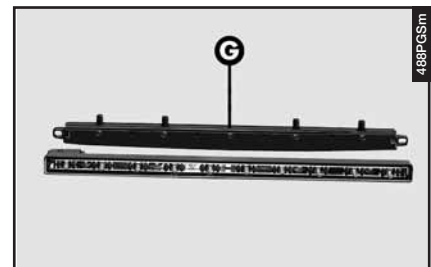

fig. 67
- Remove the transparent cover (**G**-**fig. 67**) and replace the bulb concerned